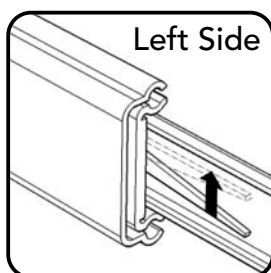

Figure 6
Note: To remove Drawers (O) in future, push plastic lever on left side up, push plastic lever on right side down and pull open. (See Figures 6 and 7)